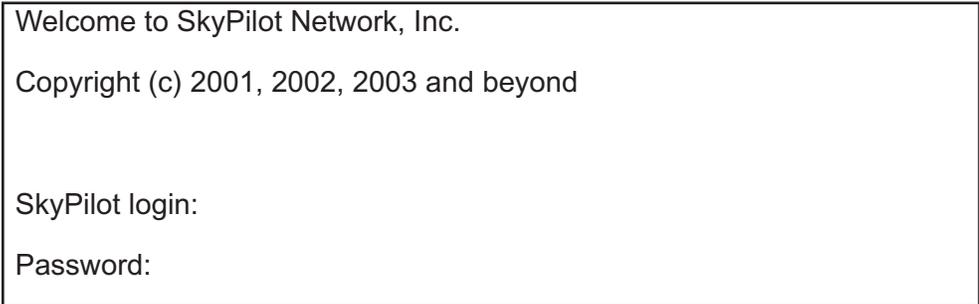

Figure 3-2 Login Screen Display
1. The main SkyPilot boot screen displays, as shown in Figure 3-2. Enter your name and password.